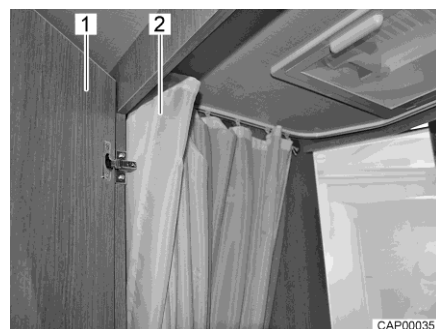

Fig. 97 Toilet compartment with shower
- For showering, close the door (Fig. 97,1) and completely close the shower curtain (Fig. 97,2) so that all walls are protected.